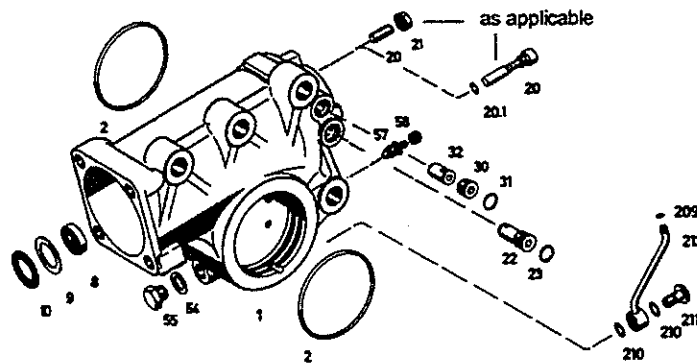

Fig.18
10.1 Remove needle cage (10), washer (9) and shaft seal (8) from housing (1) (**Fig.18**).